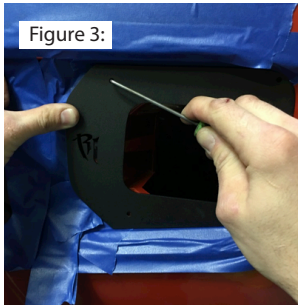

Figure 3:
Hold Rigid Industries front plate in place and using a pick or equivalent mark (4) mounting holes to be drilled using a 13/64th drill bit. See Figure 3.